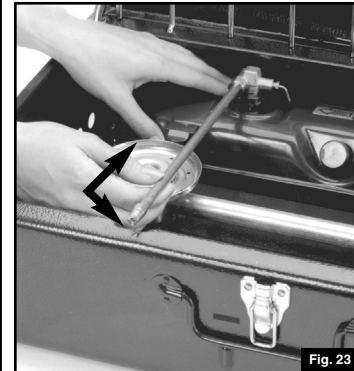

Fig. 23
- The tank fits in the left end of stove with VALVE WHEEL fitted under rear lip of case. (Fig. 23)